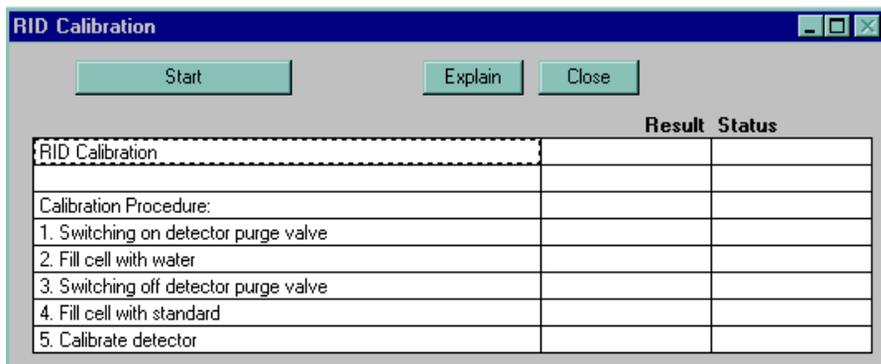

Figure 17 Start Refractive Index Calibration
- 1 From the user interface start the RID Calibration (see Figure 17).